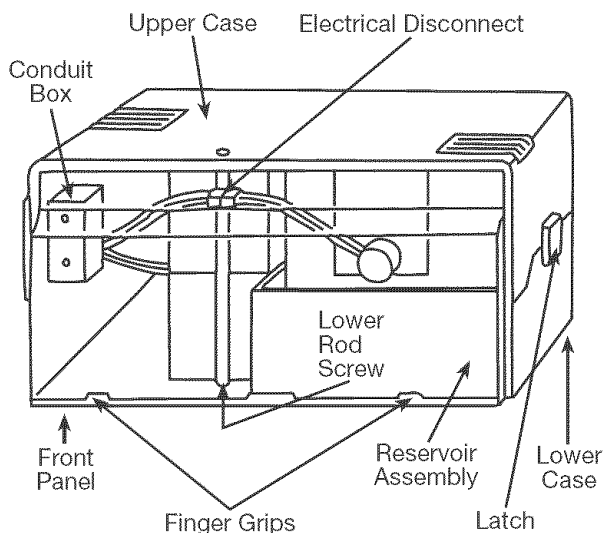
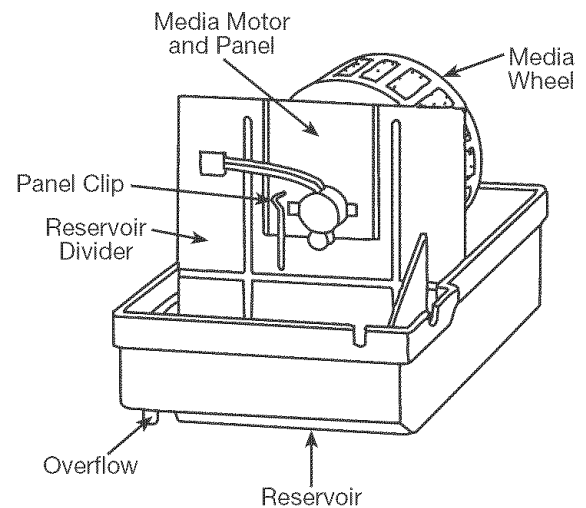

Fig. 9
Fig. 20
7. Using the two finger grips (Fig. 9) on the lower edge of the front panel, simply lift the front panel about 1/8" straight up, swing the lower edge out, pull down until the front panel is free. Remove lower rod screw (Fig. 9).
Disconnect media motor wiring at the electrical disconnect. Grasp both ends of the electrical disconnect and simply pull apart (Fig. 9).
Attach the lower case making sure both side latches are secure. Slide the reservoir assembly (Fig. 20) into case, connect the electrical disconnect for the media motor. Install lower rod screw (Fig. 9).
Place the reservoir assembly (Fig. 20) into the lower case and attach the lower case, making sure both side latches are secure. Connect the media motor electrical disconnect. Install lower rod screw (Fig. 9)
13. **It is best to install an overflow line.** Local building codes may require it. The overflow hole is in the bottom left front corner of the reservoir (Fig. 20). Use 1/2" inner diameter rubber or plastic tubing to connect to drain. (Tubing not supplied. Purchase at your local hardware store.)